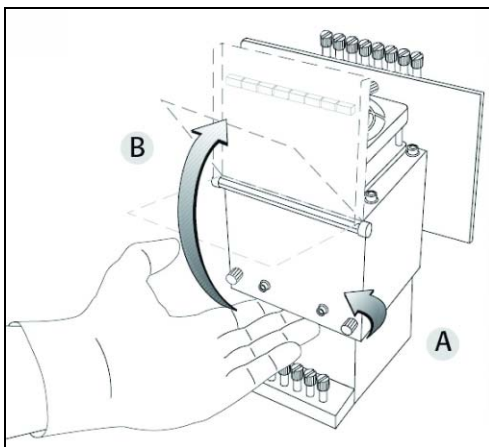

Figure 6-60: Opening the print-head compartment
- a. Open the print head compartment (see figure 6-60 on page 44).